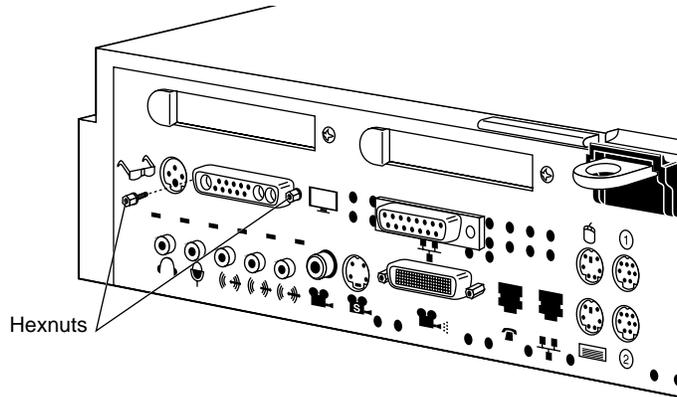

Figure 1-9 Removing the Screws From the Graphics Board's I/O Connector
6. Facing the rear of the workstation, use the open-ended wrench to unscrew the two hexnuts on either side of the graphics board's I/O connector, as shown in Figure 1-9. The wrench is provided with this upgrade.